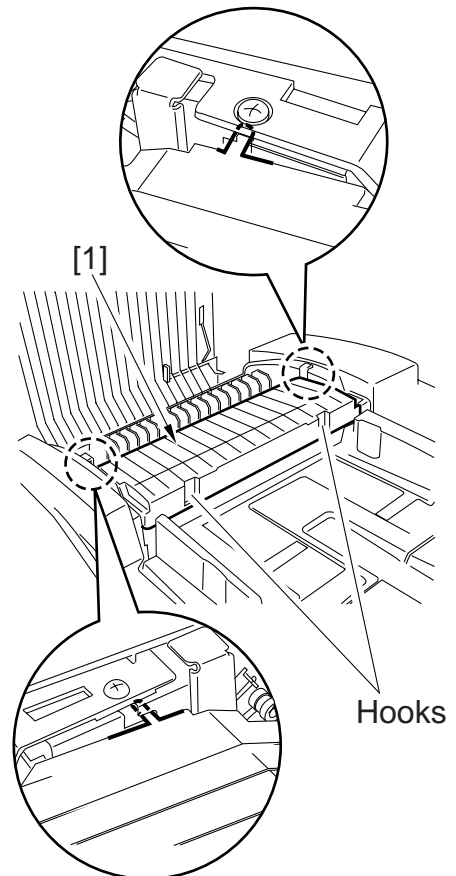

Figure 3-105a
- 2) Remove the main cover. (Figures 3-105a, 3-105b)